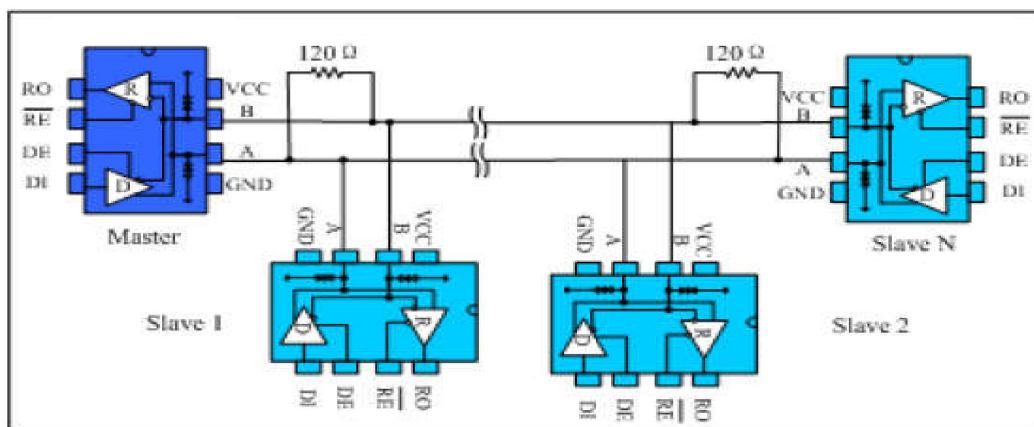

Fig. 9 Bus-type RS485 half-duplex communication network
**4.1 Bus networking:** The MAX481EESA-TD RS485 transceiver is designed for bidirectional data communication on multi-point bus transmission lines. Figure 9 shows a typical network application circuit. These devices can also be used